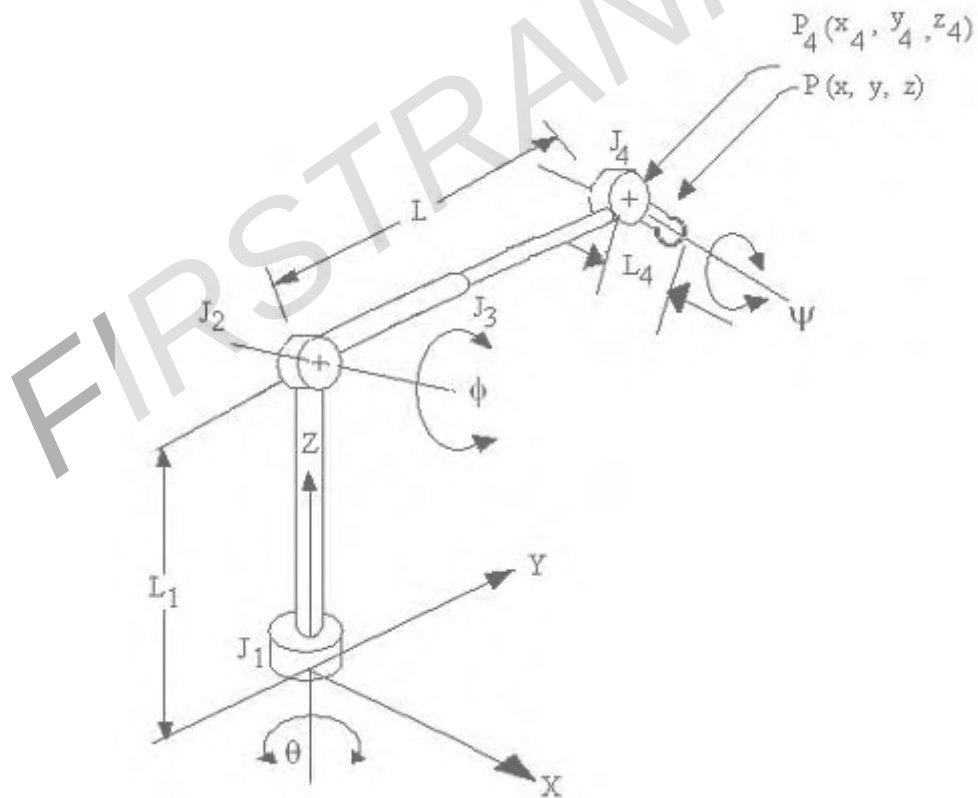

Figure 2a
- Consider the manipulator shown in figure 2a. Suppose the links and joints of the manipulator had the following settings: Length of the link $L_1=10.0\text{in}$, length of the extension link $L=15.0\text{in}$, length of link4, $L_4=3.0\text{in}$, Base angle $\theta=0^\circ$, Elevation angle $\Phi=20^\circ$, pitch angle $\varphi=34^\circ$. Determine the coordinates of the resulting point P at which the end-of-arm would be located. [8+8]